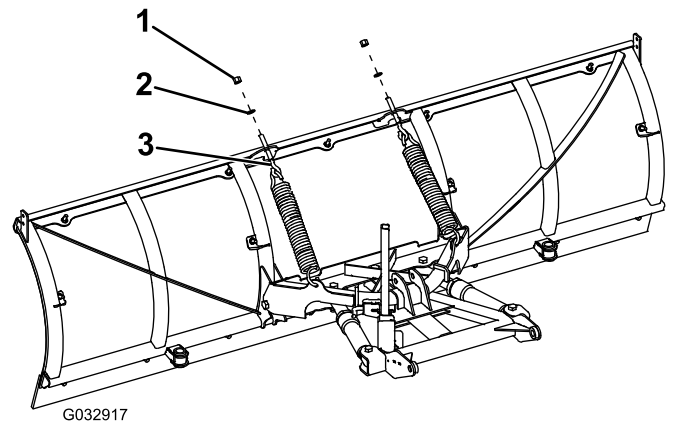

Figure 5
3. Hook the 2 trip springs through the holes on the push-frame assembly (Figure 5).
4. Hook the other ends of the trip springs to 2 eyebolts (Figure 5).
5. Insert the threaded end of the eyebolts through the holes on the plow blade and secure them using 2 washers (1/2 inch) and 2 self-locking nuts (Figure 5).